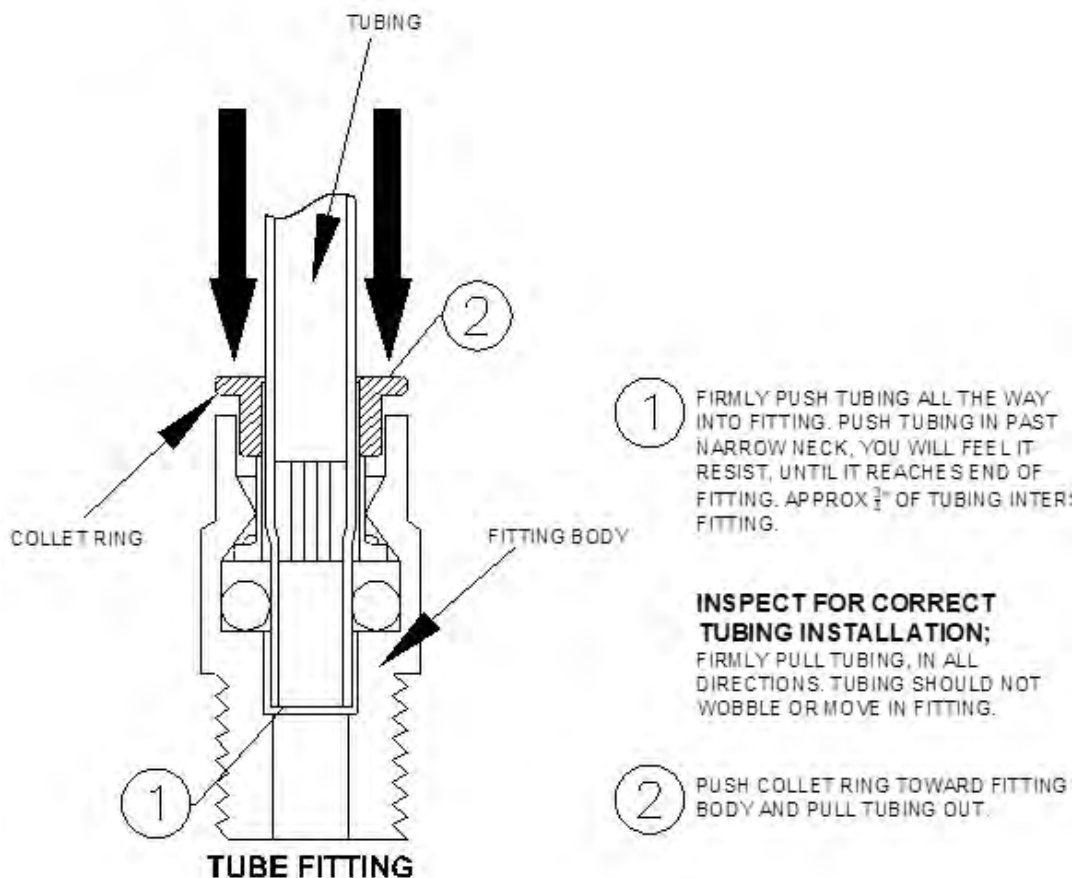

Figure 4.7 Installing Tubing Into Fittings.
- To prevent leaks, use a tube cutter to make a clean, square cut. **DO NOT USE** a razor blade or straight edge knife. A tube cutter is provided in the fittings kit, refer to fig. 4-7.